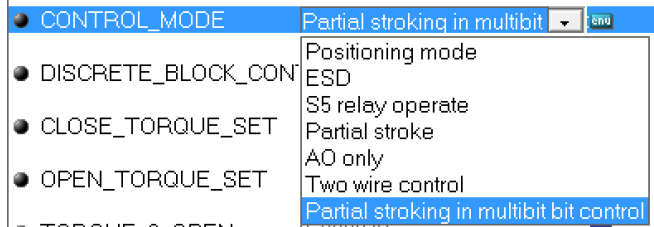

Fig 6.10: DO4 options as shown in the TB
2. The DO4 block options will appear as shown in fig 6.10